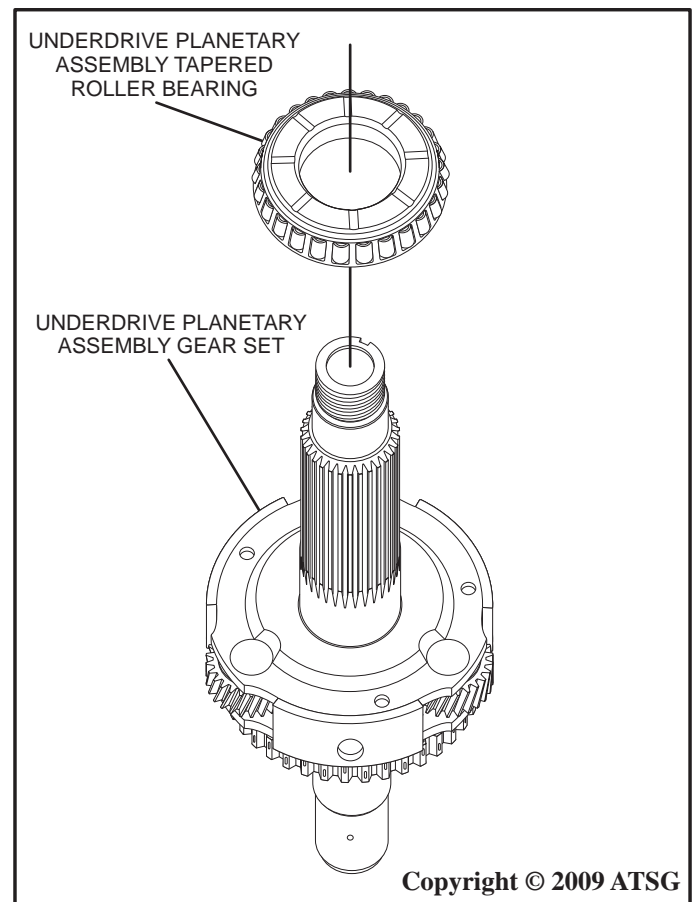

Figure 72
- Using SST 09950-00020, 09950-00030, 09950-60010 (09951-00340) or a suitable bearing removal tool, remove the underdrive planetary assembly tapered roller bearing as shown in Figure 72.